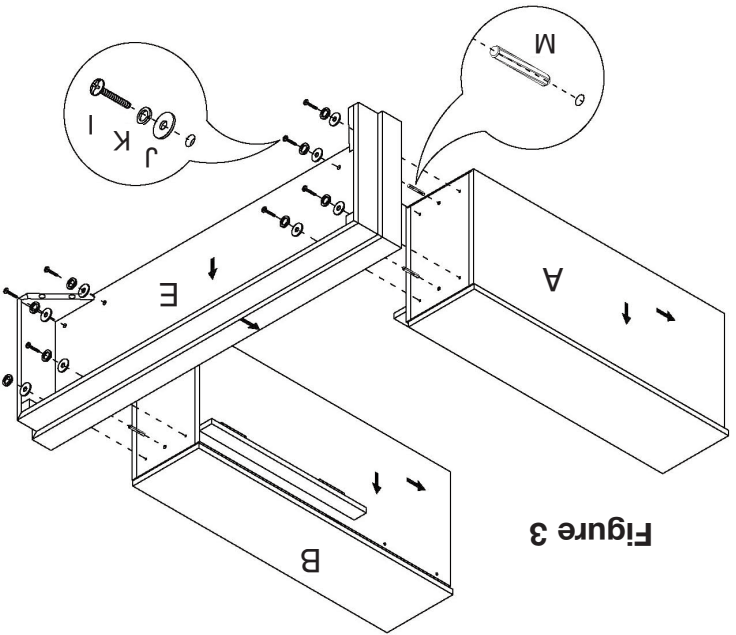

Figure 3
4. Position right and left side panel assemblies with doors facing up as shown in Fig. 3. Insert 3/4" wood dowels (M) into pre-drilled holes in both side panel assemblies. Slip base (E) over dowels and secure with 1" Phillips screws (I), spring washers (K), and flat washers (J) through pre-drilled holes (see inset Fig. 3).